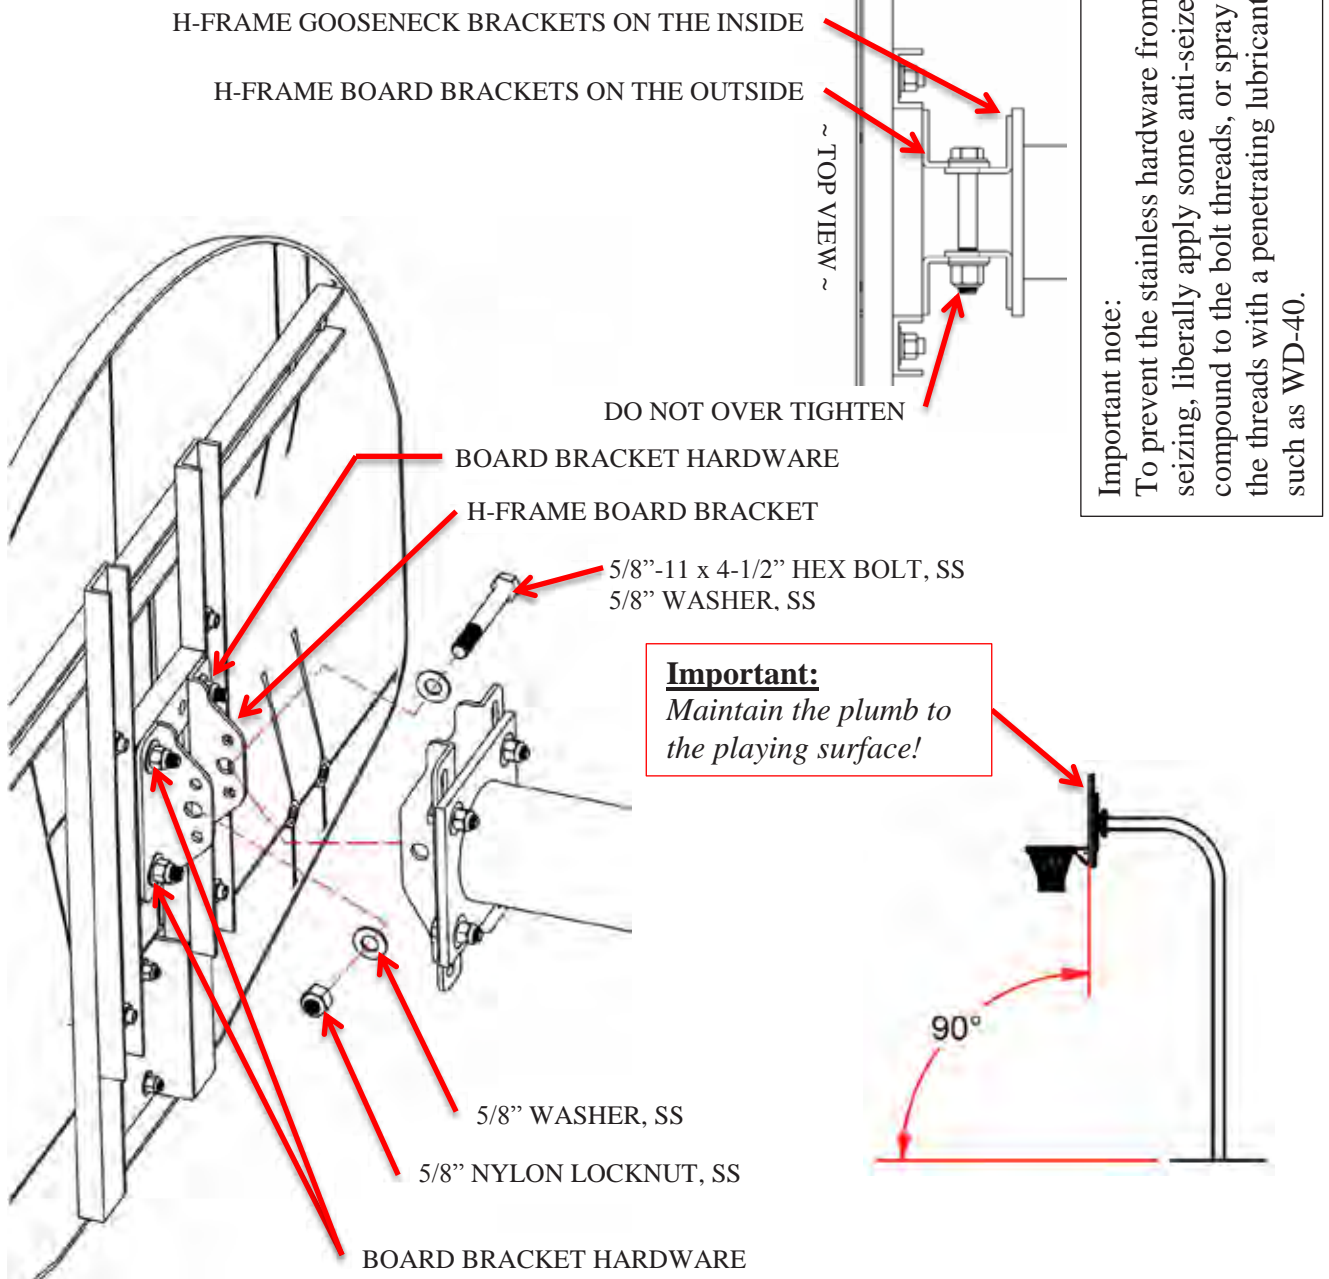

Figure 9
2. Once the H-Frame board brackets in on the H-Frame gooseneck bracket. Tighten the board bracket hardware (Figure 9).